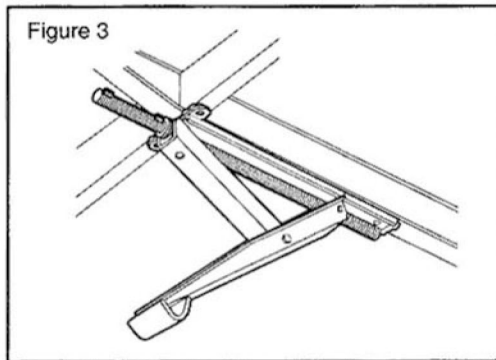

Figure 3
STEP 2. With stabilizers in desired location, clamp in place and weld mounting plates to trailer frame as shown in Figure 3.